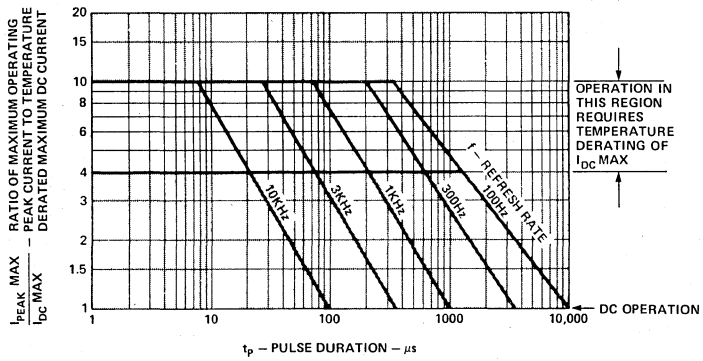
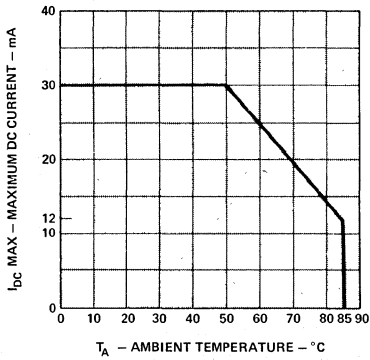

Figure 1. Maximum Allowed Peak Current vs. Pulse Duration.
Figure 2. Maximum Allowable DC Current per Segment vs. Ambient Temperature.
Temperature derated strobed operating conditions are obtained from Figures 1 and 2. Figure 1 relates pulse duration (t_p), refresh rate (f), and the ratio of maximum peak current to maximum dc current ($I_{PEAK MAX}/I_{DC MAX}$). Figure 2 presents the maximum allowed dc current vs. ambient temperature. To most effectively use Figures 1 and 2, perform the following steps:
3. Enter Figure 1 at the calculated t_p . Move vertically to the refresh rate line and record the corresponding value of $I_{PEAK MAX}/I_{DC MAX}$.
4. From Figure 2, determine $I_{DC MAX}$. Note: $I_{DC MAX}$ is derated above $T_A = 50^\circ C$.